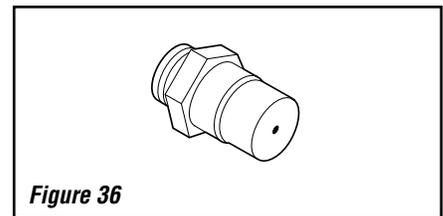

Figure 36
- b. Remove the orifice from the manifold and replace it with the one provided in the kit. See **Table 7** for orifice sizes for natural and propane models. **Figure 36** illustrates the orifice. Always check and verify orifice size.